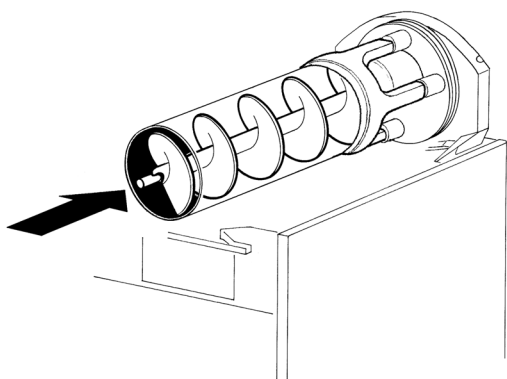

figure 13
- 5 - Insert the auger into the evaporator. Taking care to insert the rear seal properly. (see figure 13).